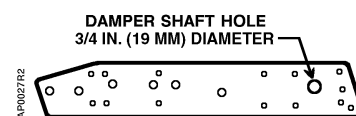

Figure 2. Actuator Mounting Plate.
1. Slip 3/4-inch (19 mm) diameter hole in the mounting plate over the damper shaft (Figure 2).